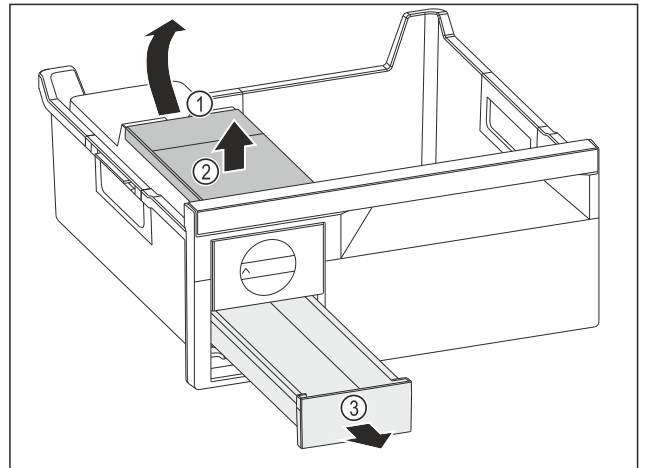

Fig. 109
- ▶ Removing the water tank: Lift the water tank by the recess Fig. 109 (1).
- ▶ Remove the water tank Fig. 109 (2) upwards.
- ▶ Remove the ice cube drawer Fig. 109 (3) to the front.